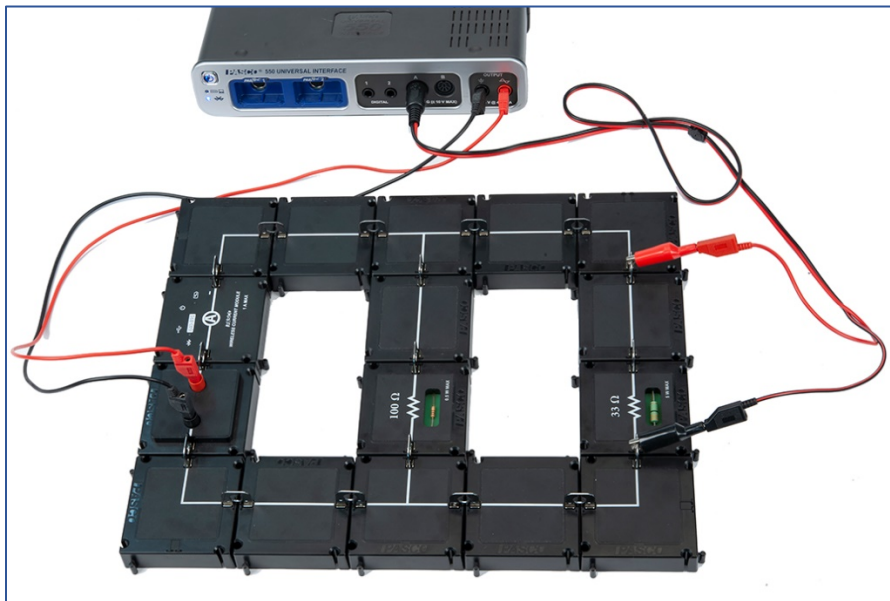

Figure 1: Setup
1. Construct the circuit shown in the Circuit Diagram 1 and in Figure 1. Note that the Voltage Sensor is not required for this part of the experiment.